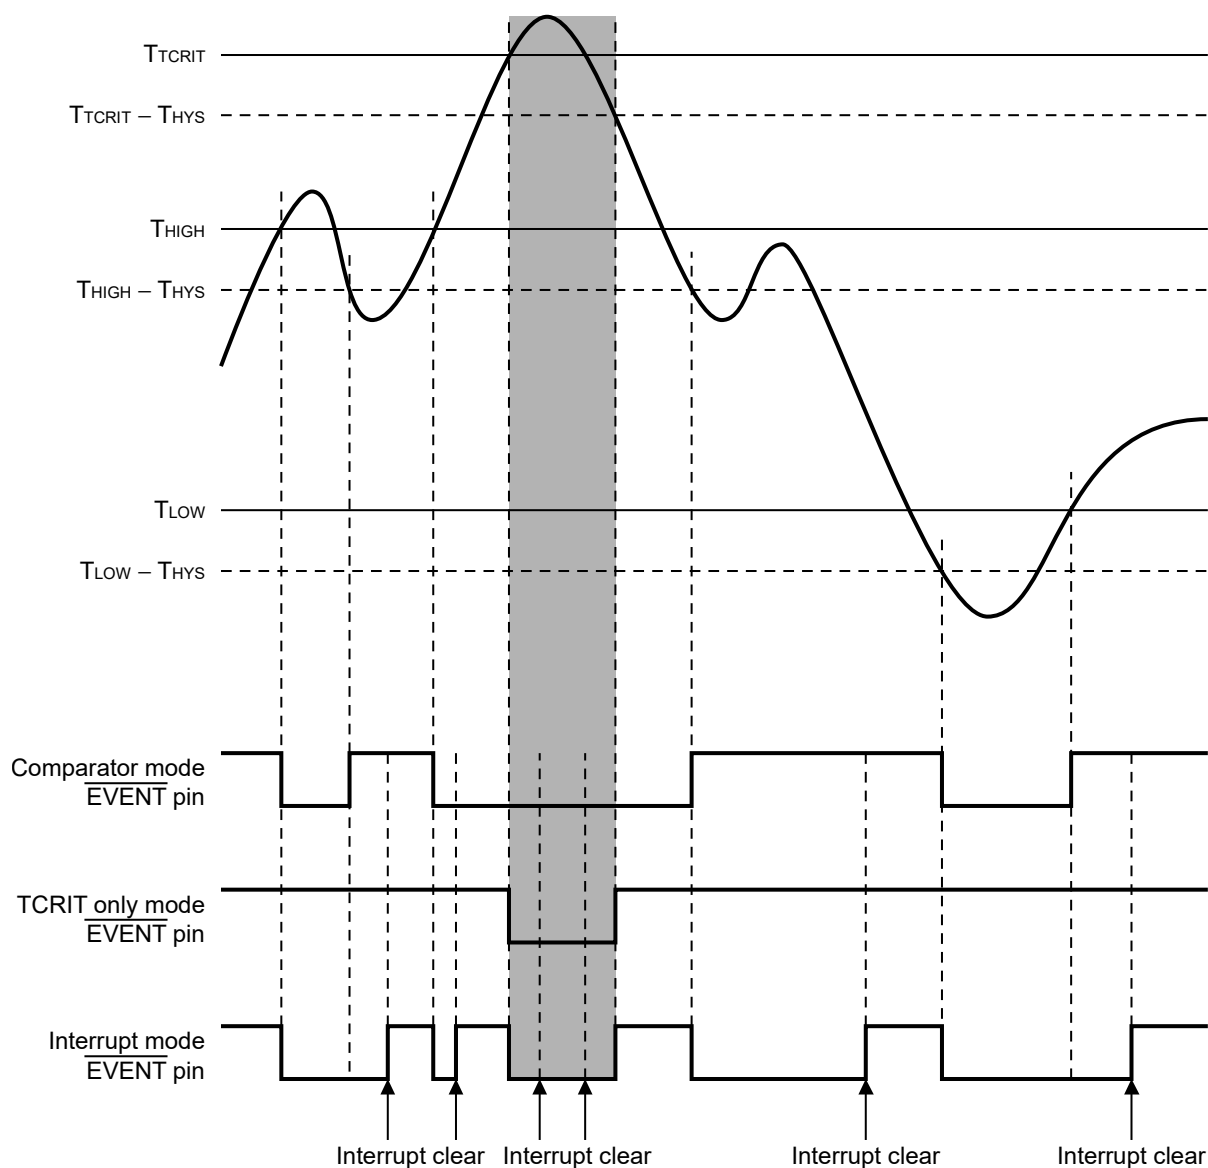

Figure 4  $\overline{\text{EVENT}}$  pin (Active "L")
**Figure 4** shows an example of the measured temperature versus time, with the corresponding behavior of the  $\overline{\text{EVENT}}$  pin in each of these three modes.